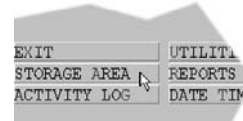

Figure 8. Accumark™ Storage Area.
2. Choose the **Storage Area** where the marker files are stored. Choose *Enter* when finished. (Figure 8.)